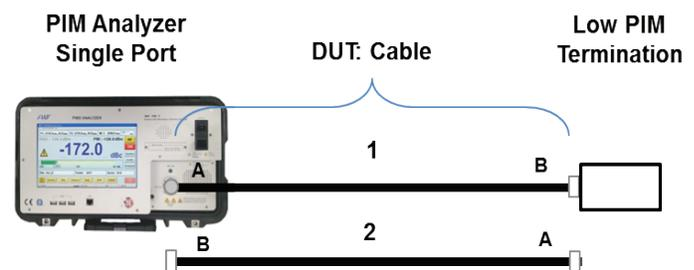

Figure 4. Forward and reverse PIM measurement of cable, as simple dual-port DUT (cable).
For many measurement applications in telecommunications, single-port analyzers are suitable for both, reverse and forward PIM analysis. Figure 4 shows forward and reverse PIM measurements for a simple two-terminal DUT; a cable in this example. Forward and reverse PIM will not differ much, and can easily be measured in two steps. Reverse PIM is measured by connecting one end of the DUT (A) to the PIM analyzer, while the other end is terminated with a low PIM load (B). Forward PIM is measured with the direction of the DUT reversed (B-A). The resulting PIM measurements are quite similar.